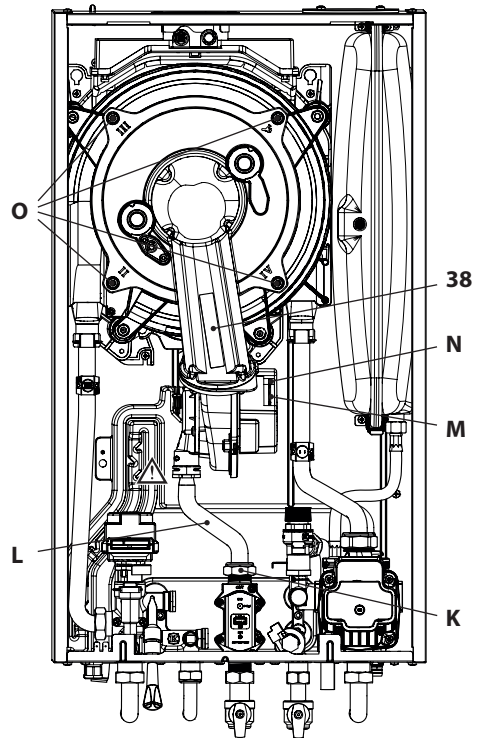

Figure 9.12
Removing the burner fan unit 38 in Figure 9.12.
- Disconnect the connector **M** by pulling it downwards (Figure 9.12).
- Disconnect the fan connector **N** by pulling it downwards (Figure 9.12).
- Loosen the nuts **O** and remove the fan burner unit 38 (Figure 9.12)